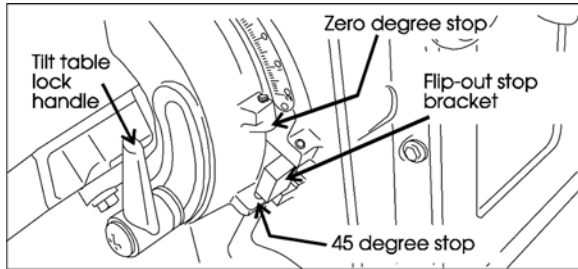

Figure 21: Locations of stop lugs and stop bracket for zero and 45° table positions.
2. Flip out the stop bracket (See Figure 21).